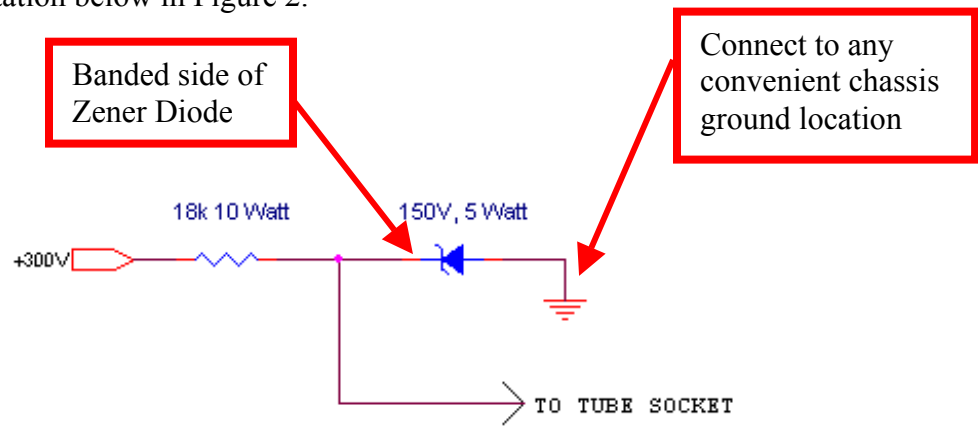

Figure 2. Schematic of terminal strip mounted components.
- 7) Find a suitable location on the underside of the chassis where the two wires are protruding to mount a terminal strip. There will be three connections to this strip. The two wires and a connection to chassis ground. See the schematic representation below in Figure 2.